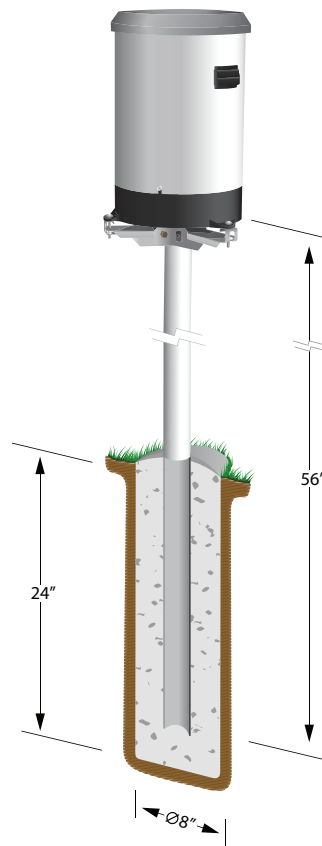

FIGURE 4-9. TB4 or TB4MM Mounted onto a CM310 Pole via the CM240 Mount
1. Mount the rain gage to either the CM240 (FIGURE 4-9) or a user supplied bracket. Remove the rain gage funnel from the base by removing the three screws and lifting upward. Adjust the three nuts on the CM240 bracket to level the rain gage. On user supplied brackets, shims or washers can be used to level the rain gage. A bubble level is mounted on the TB4, TB4MM, or CS700 base to facilitate leveling.